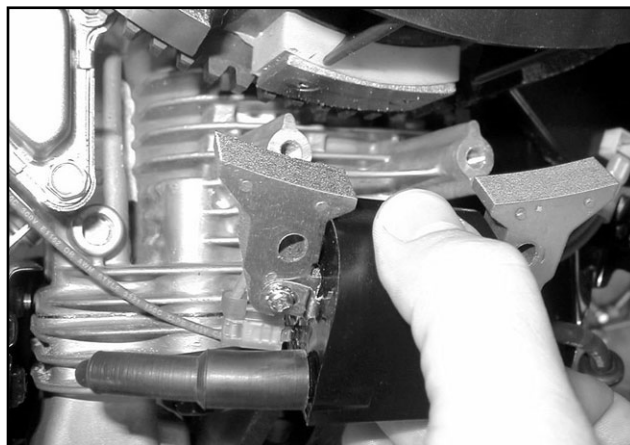

Figure 2-1. Removing Armature
4. Remove armature screws and lift off armature(s), Figure 2-1.